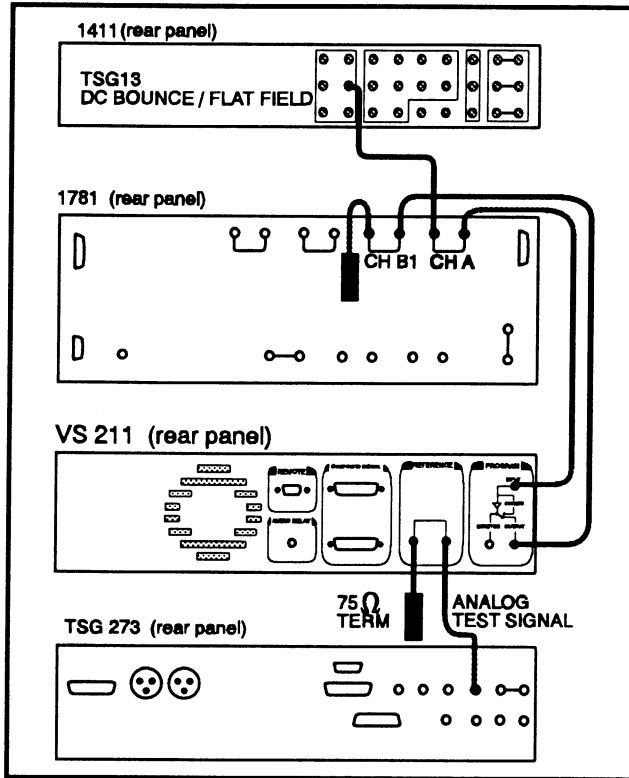

Fig. 4-30. Setup to adjust the Clamp Loop
- Set up the equipment as shown in Fig. 4-30.